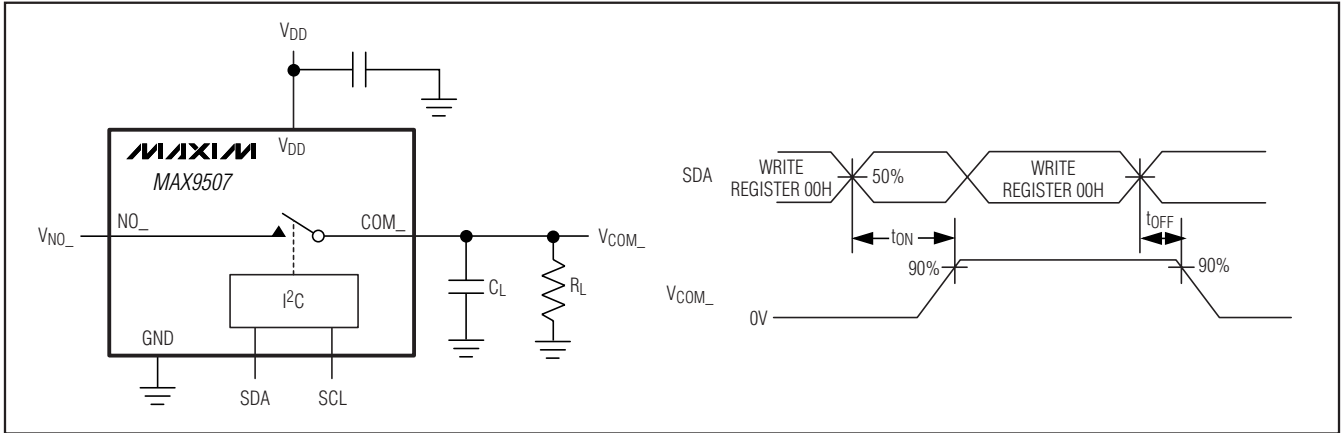

Figure 1. Analog Switch Test Circuit
**Note 6:**  $t_{ON}$  and  $t_{OFF}$  are measured from the end of the writing of register 0x00 until COM reaches 90% of the output voltage. See Figure 1.